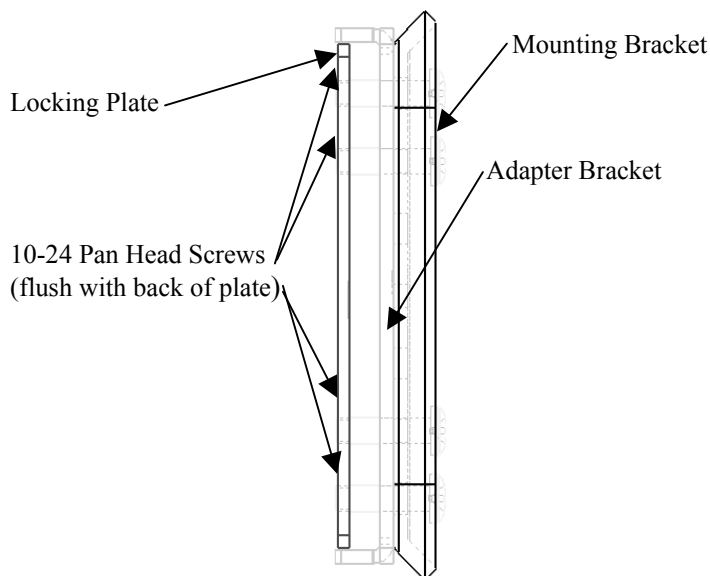

Figure 2
1. Attach the mounting bracket (supplied with your mounting assembly) and adapter bracket loosely on the locking plate, threading the 10-24 pan head screws in until they are just flush with the back of the locking plate (see Figure 2).